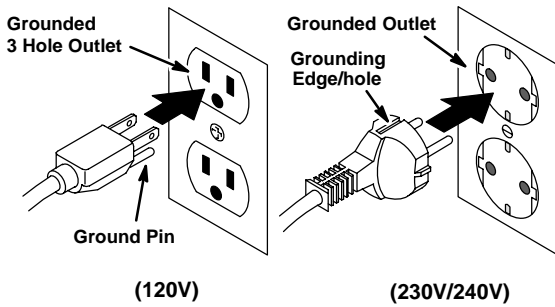

FIG. 4
7. Plug power supply cord to a grounded wall outlet (Figure 4).